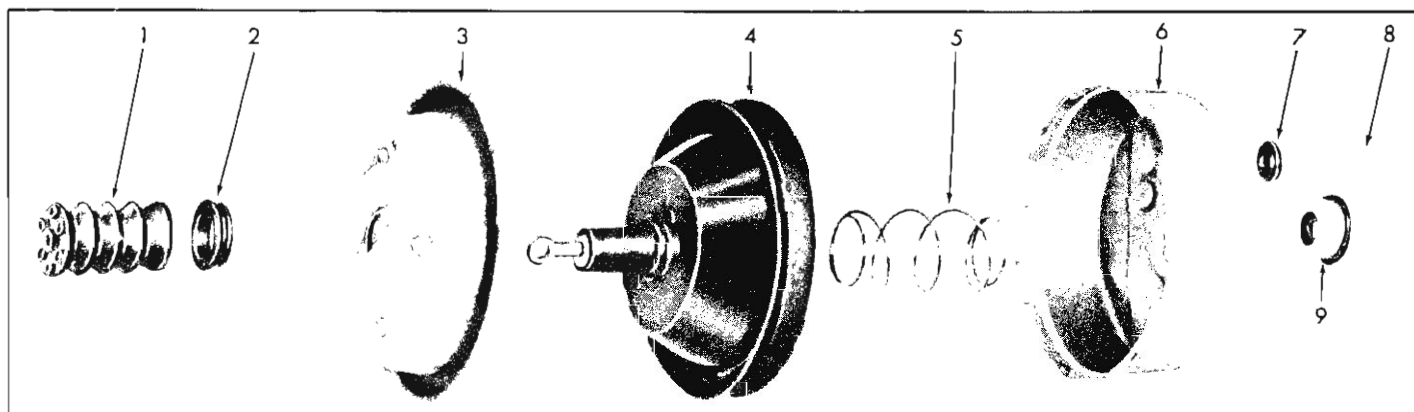

Fig. 12—Component Exploded View
5. Remove rubber boot from power piston extension and separate power piston from rear shell. Remove air filter element from power piston extension, and remove power piston bearing from the rear shell (fig. 12).
1. Install power piston bearing in rear shell so that the large flange is outside (fig. 12). Lubricate the grooves in the ID of the power piston bearing.